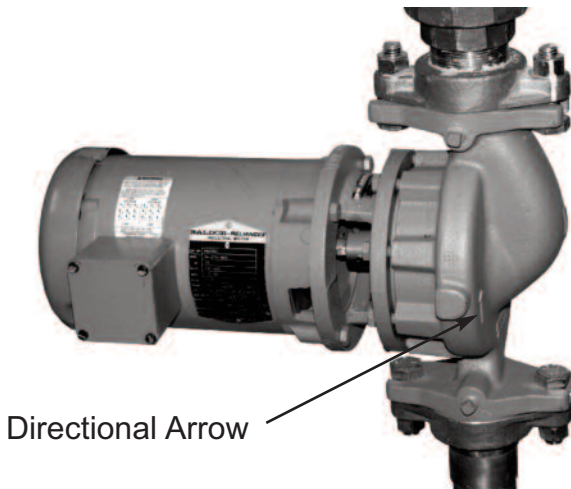

Fig. 34: Directional Arrow
11. Turn heater on to receive a “call-for-heat” and verify the injector pump is rotating in the proper direction (clockwise). The pump volute has an arrow cast into the housing indicating the proper rotational direction. See Fig. 34.